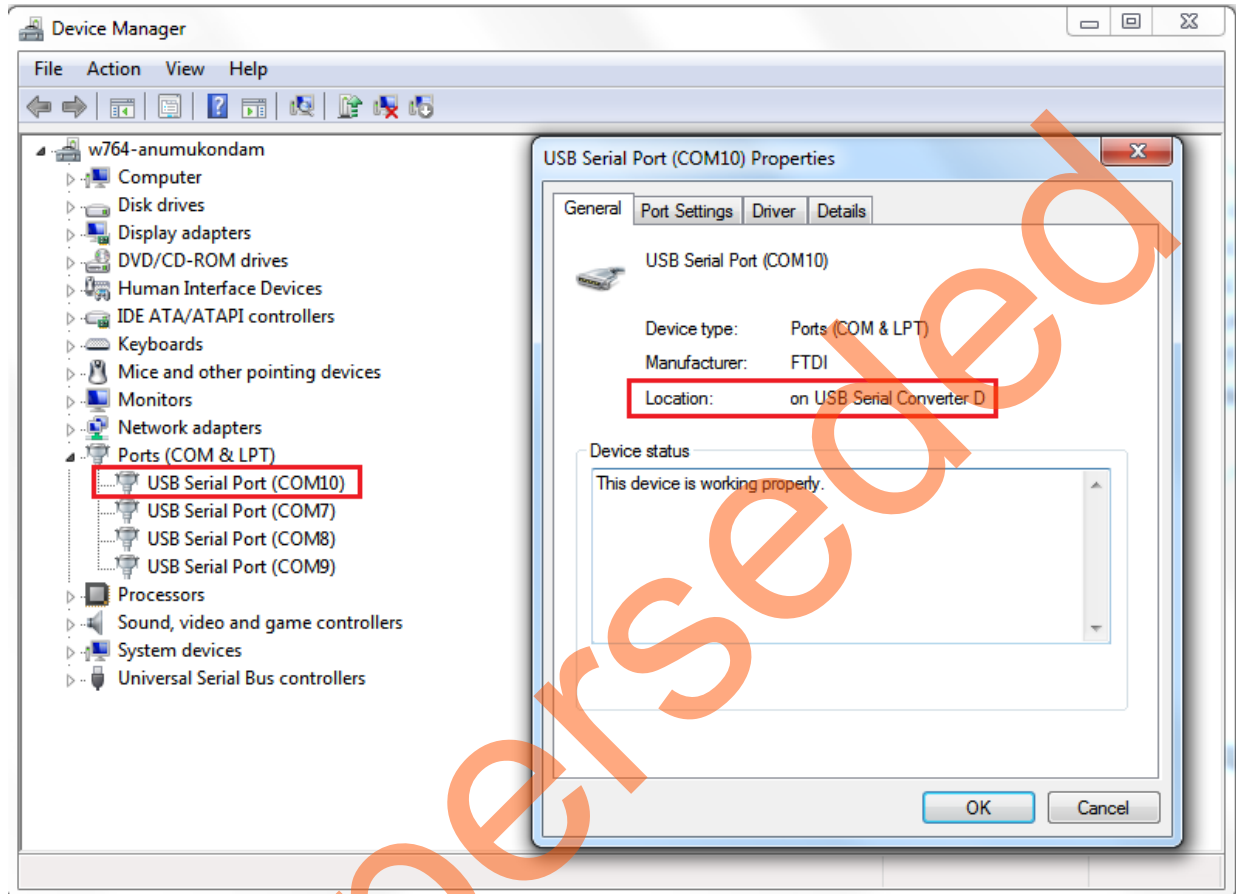

Figure 5 • USB to UART Bridge Drivers
5. Ensure that the USB to UART bridge drivers are automatically detected. This can be verified in the **Device Manager** of the Host PC. The FTDI USB to UART converter enumerates four COM ports. For USB 2.0, note down the USB Serial Converter D COM port number to use it in the IGL2_FIR_Filter.exe. Figure 5 shows the USB 2.0 Serial port properties and the connected COM10 and USB Serial Converter D.